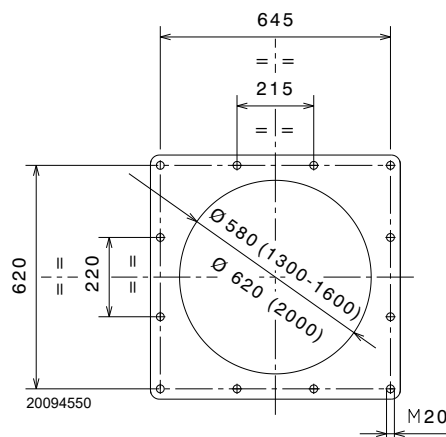

Fig. 13
Pierce the closing plate of the combustion chamber, as in Fig. 13.
- Fit the entire burner onto the boiler hole, prepared previously, as in Fig. 13, and fasten with the screws supplied (tightening torque $250 \div 300$ Nm).